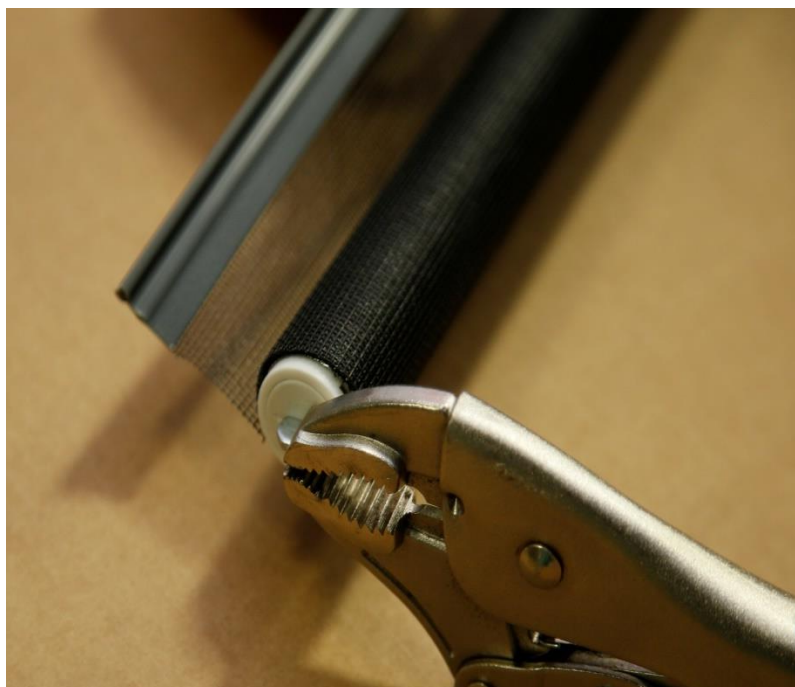
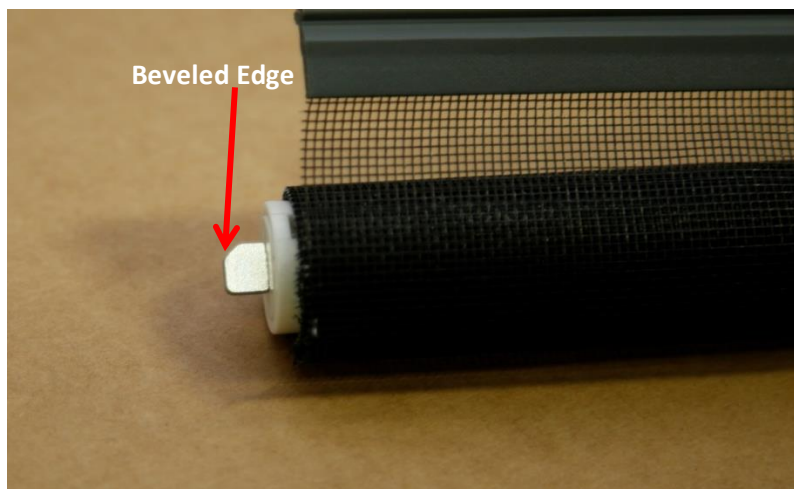

Figure 4a
Figure 4b
Step 4: Remove the screen roll from the right side pivot bracket by pulling the cable out of the way then pull the roll toward you (Figure 4a). Pull the left side screen roll out. Note: The screen tension will release once the roll is removed. (Figure 4b).